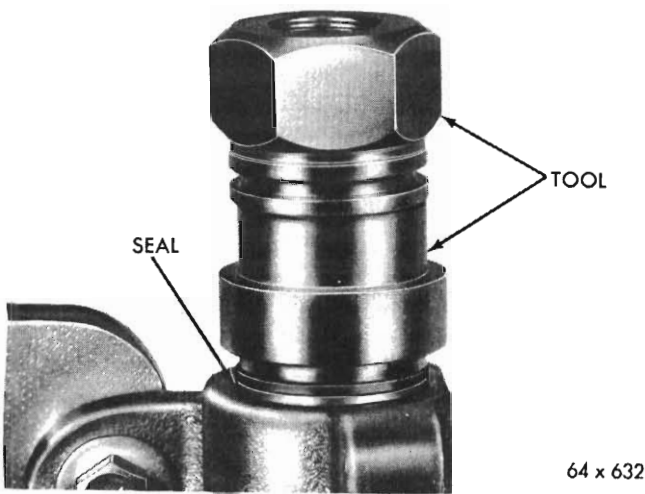

Fig. 7 – Installing gear shaft grease retainer
(2) Position the gear shaft outer seal with the lip of the seal toward the housing, place the short lip of adaptor against the seal, engage tool nut with the threaded end of the gear shaft (Fig. 7). Turn the nut until the shoulder of the adaptor contacts the housing. Remove the tool nut and adaptor.
(3) Position steering gear and front wheels in straight ahead position and install steering gear arm and nut.
(4) Tighten nut to 180 lbs. ft.